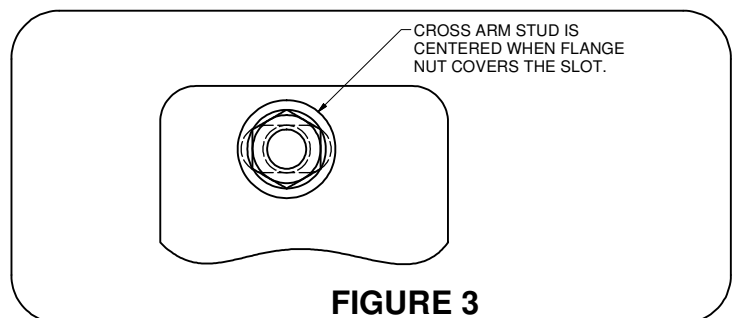

FIGURE 3
9. Rotate the cross arms until they contact the truck bed. Center the rear cross arm studs in the side plate slots as shown in **Figure 3**. Use a 15/16" wrench to tighten the 5/8" flange nuts on the rear cross arm to the side plates. Use the spacer tube provided to evenly space the cross arms. Once evenly spaced tighten the 5/8" flange nuts on the front cross arm. **(Note: Do not tighten front cross arm until cross arms are evenly spaced.)**